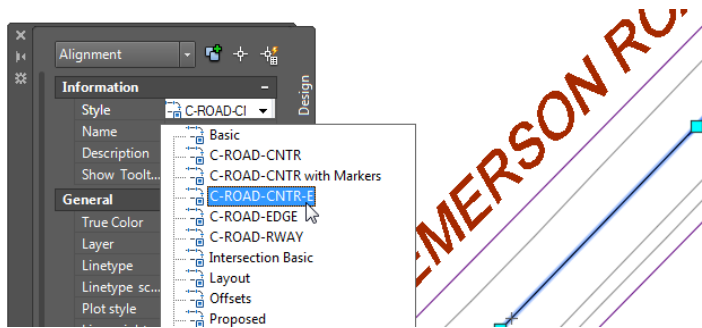

FIGURE 6.2 Assigning an alignment style in the Properties window
- Change the style to C-ROAD-CNTR-E, as shown in Figure 6.2.